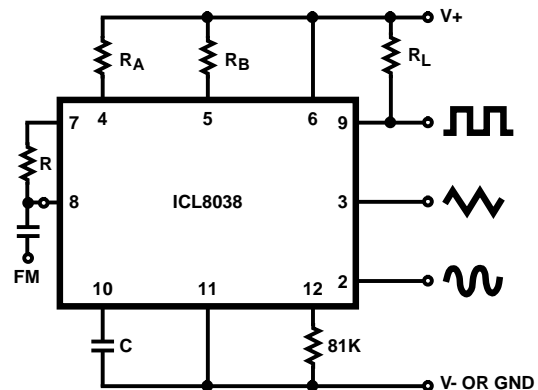

FIGURE 5A. CONNECTIONS FOR FREQUENCY MODULATION
- $V_{\text{SUPPLY}} = 20\text{V}$; R_A and $R_B = 10\text{k}\Omega$, $f \cong 10\text{kHz}$ nominal; can be extended 1000 to 1. See Figures 5A and 5B.
The frequency of the waveform generator is a direct function of the DC voltage at Terminal 8 (measured from V+). By altering this voltage, frequency modulation is performed. For small deviations (e.g. ±10%) the modulating signal can be applied directly to pin 8, merely providing DC decoupling with a capacitor as shown in Figure 5A. An external resistor between pins 7 and 8 is not necessary, but it can be used to increase input impedance from about 8kΩ (pins 7 and 8 connected together), to about (R + 8kΩ).